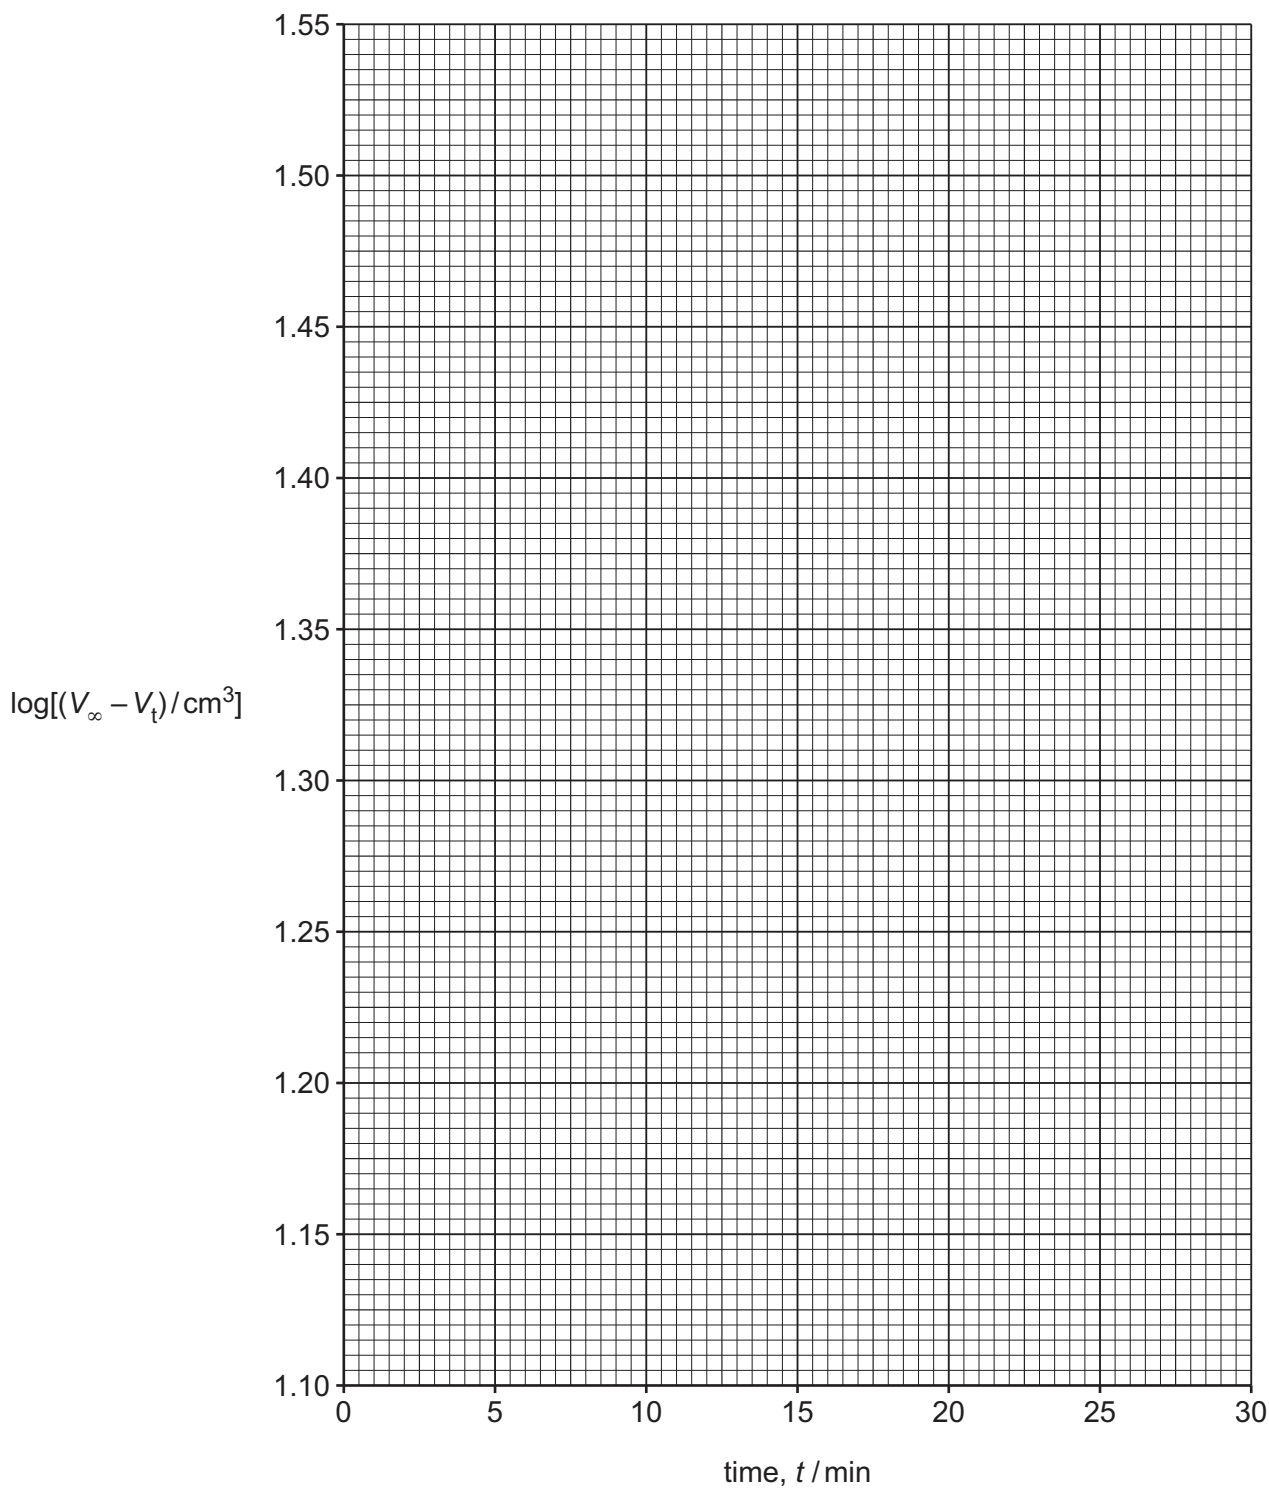

Fig. 2.1
(ii) Plot a graph on the grid in Fig. 2.1 to show the relationship between  $\log[(V_\infty - V_t)/\text{cm}^3]$  and time,  $t$ . Use a cross ( $\times$ ) to plot each data point.
- (iv) Determine the gradient of your line of best fit in Fig. 2.1.
- (d) The equation of the straight line plotted in Fig. 2.1 is shown.
- (e) Use your graph in Fig. 2.1 to state whether you consider the results to be reliable. Give a reason for your answer.
Sketch a suggested line of best fit on Fig. 2.1 for the second experiment. [1]